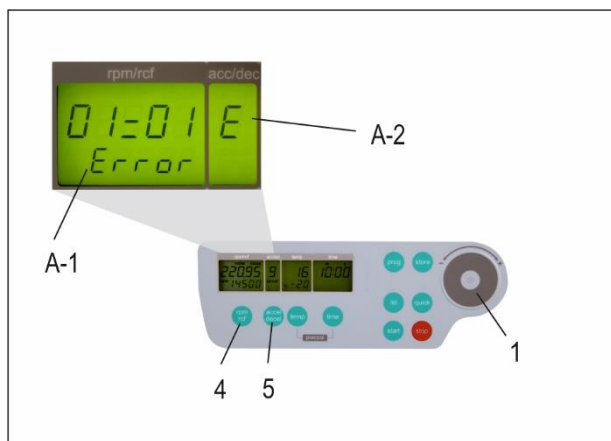

Figure 13
The list of the last 99 error messages can be reviewed by pressing the key, "rpm/rcf" (4) and scroll through, with the control field (1) (see Figure 13). The respective error codes appear in the display, "rpm/rcf" (A-1). Please refer to "Table 7: Error Messages", (see APPENDIX P. VIII).